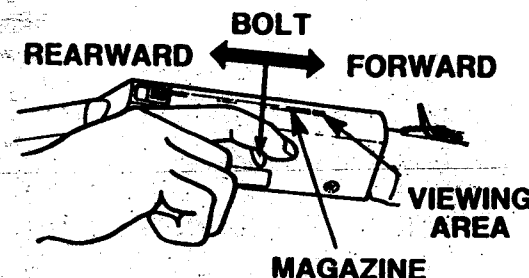

FIG. 4
- With rifle pointed downward, cock the bolt by pulling it all the way back. (Fig. 4). The bolt will pick up a BB.